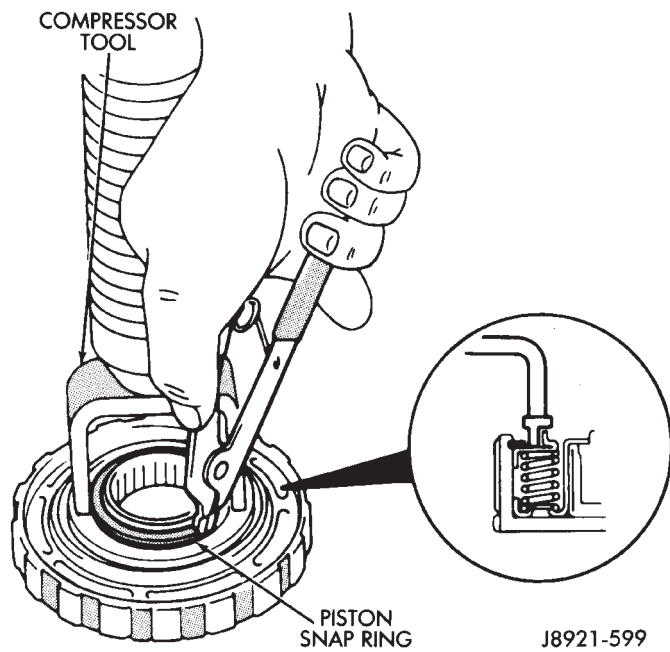

Fig. 4 Removing/Installing Second Brake Piston Snap Ring
(4) Compress piston return springs with shop press and tool 7538. Then remove piston snap ring (Fig. 4).